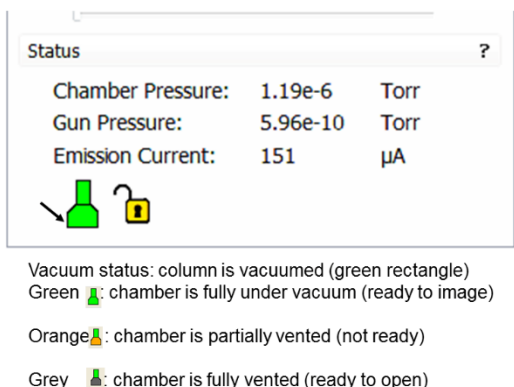
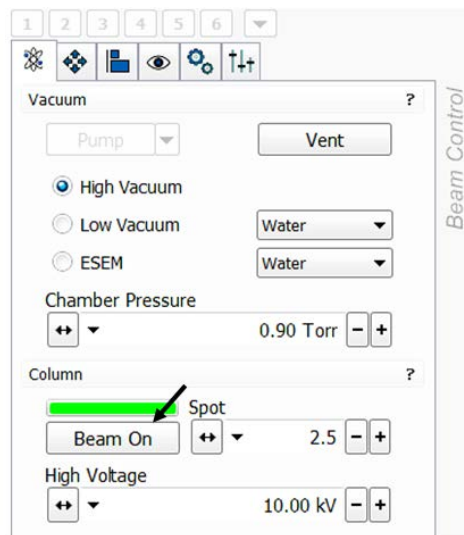

Figure 4
Figure 5
The bottom right corner of the xT Microscope Control window contains information about the status of the vacuum, stage, gun, and HV. The pressure of the chamber and the column are displayed. In general, during normal operation the chamber icon should always be green and have a pressure of $< 5 \times 10^{-5}$ Torr. Green color indicates the system is functioning properly. Grey indicates that the system is off and orange indicates that the system is in transition between off and ready. When the chamber pressure is below 1.5×10^{-4} Torr, the chamber icon will turn green. When the chamber pressure reaches 5×10^{-5} Torr the electron beam can be turned on. These values communicate crucial vacuum information to the user so it is important to watch them constantly. (Fig. 4)
- 7.2 Make sure the **beam is off**. Lower the sample below the 10-mm mark and move the stage to the In/Out position. Click 'Vent' on vacuum mode on the beam control Panel to open the SEM chamber. (Fig. 5) You will be asked to confirm this action. The color of the chamber icon changes from green to orange. (Fig. 4) Slowly pull the chamber door open when **the chamber icon turns grey** (takes about 2 minutes to a complete vent). **Caution** must be taken when open/closing the chamber door. If there is a sample in the sample holder, you must ensure that the sample will not hit the pole piece or any detector prior to pull the chamber door.
- 9.1 Turn the beam off by pressing the **Beam On** button. (Fig. 4) The button should turn from yellow to grey. Lower the sample stage to the 10-mm marker.
- 9.3 Vent the chamber by clicking **Vent** button under the Vacuum menu in the Beam Control work page. It takes about 2 min until the sample chamber icon turns gray, which indicates that the chamber door can be opened. (Fig. 4)